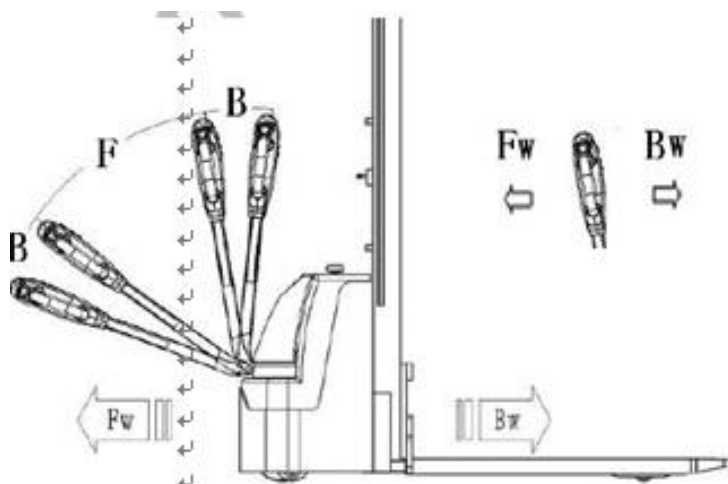

Fig 8: The direction of the operation
Will have been put into the key is rotated to the "open" position (Figure 1 16; finally, carefully pull play urgent stop button), start the vehicle, the handle is moved to the area of operations ('F', FIG. 8). Direction of rotation to the desired Fw of the accelerator button. ' Or backward direction 'Bw.' (Figure 11). By carefully moving the accelerator button (12) to control the driving speed until it reaches the desired speed.